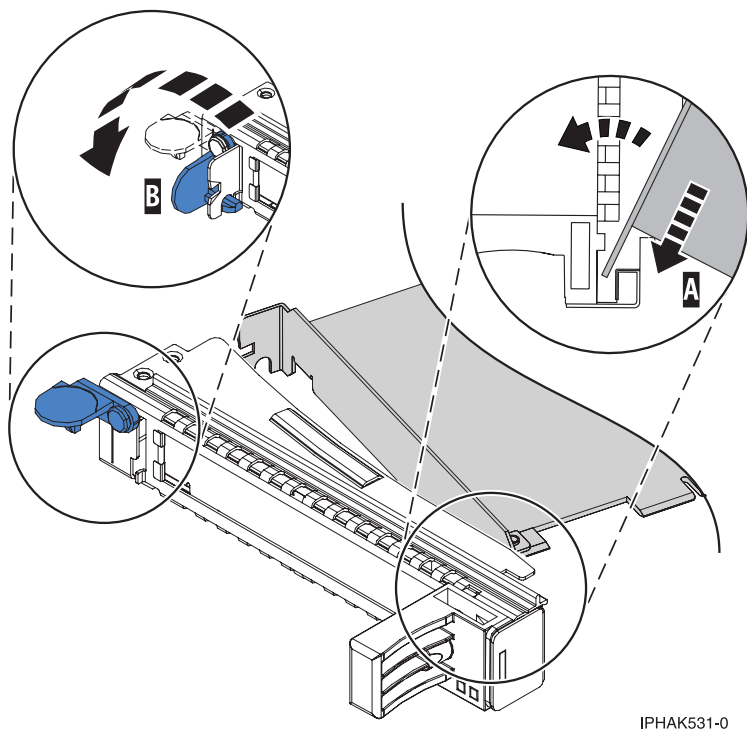

Figure 87. Adapter removed from the PCI adapter single-width cassette
- a. With the tailstock clamp in the open position, insert the adapter firmly into the tailstock retaining channel (A). See Figure 87 on page 94.
c. Close the tailstock clamp (B). See Figure 87.